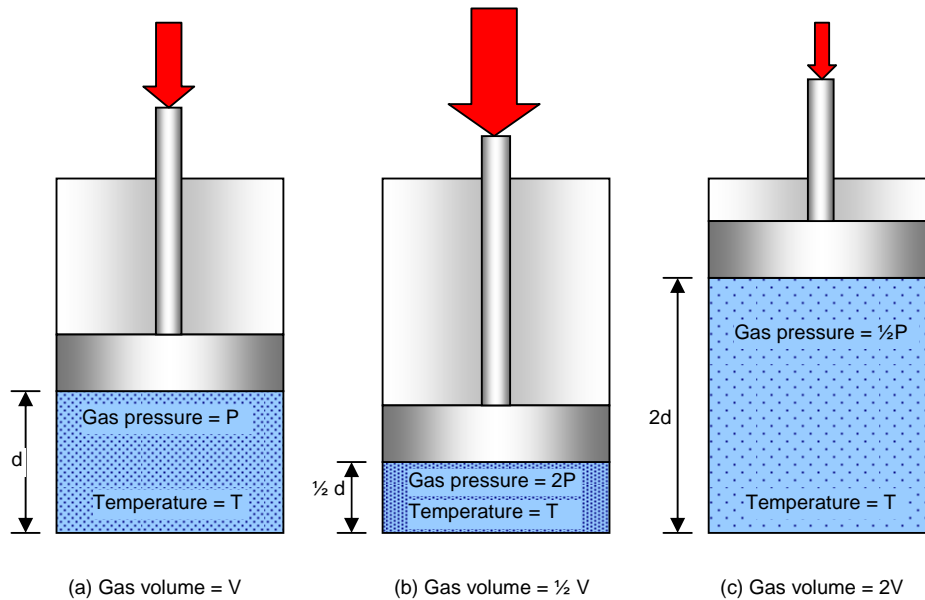
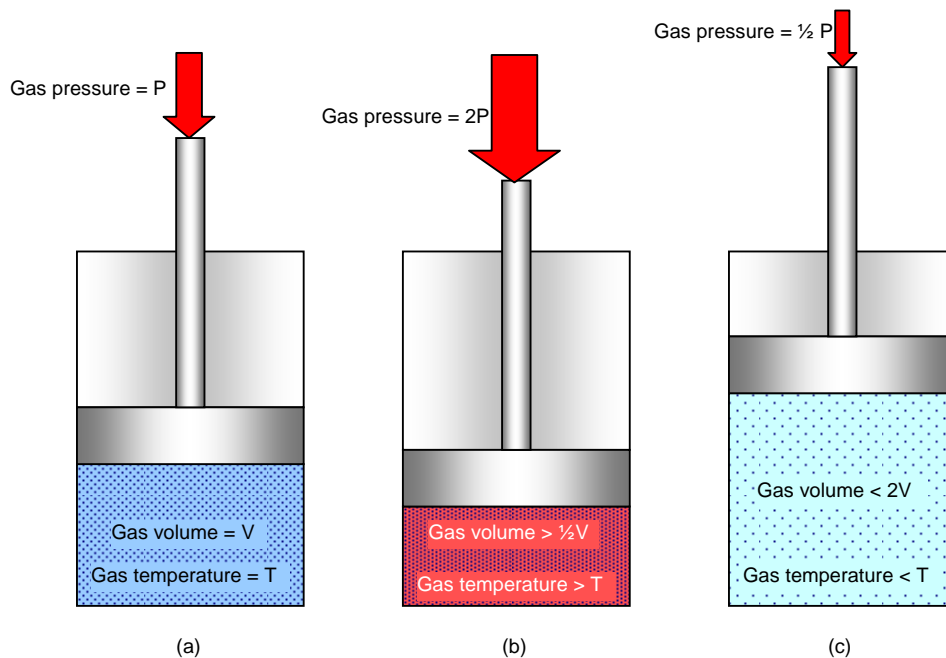

Figure 2.1: Boyles Law
Figure 2.2: Effect of Pressure on Gas Temperature and Volume
If you **reduce** the pressure on a gas the opposite happens. **Figure 2.1** shows these changes.
- if you double the pressure, the volume is halved (**Fig. 2.1(a)** to **(b)**)
- if you halve the pressure, the volume doubles (**Fig. 2.1(a)** to **(c)**)
To give the exact relationship between pressure and volume described by Boyle’s Law—doubling pressure halves volume—you have to cool the gas to stop its temperature increasing. In **Figure 2.1**, the gas has to be cooled to get from (a) to (b).
Decreasing pressure has the opposite effect—as the pressure decreases its temperature also decreases. To get from (a) to (c) in the **Figure 2.1** the gas has to be heated.
When gas pressure is increased in a compressor, it can not be kept at the same temperature. As the gas is compressed, its temperature rises. **Figure 2.2** shows how the temperature change affects the volume of a gas. The pressure changes here are the same as those shown in **Figure 2.1**.
In **Figure 2.2(a)** to **(b)**, when the pressure of the gas is doubled, the gas gets hotter ($>T$) and tries to expand. The volume of the gas is more than it would be if the gas temperature remained constant ($>1/2V$).
Decreasing the pressure has the opposite effect. **Figure 2.2 (a) to (c)** shows that when the pressure of the gas is halved, the gas gets cooler ($<T$) and tries to contract. The volume of the gas is less than it would be if the gas temperature remained constant ($<2V$).